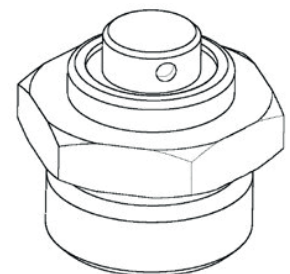

Fig. 3 - 3 bar valve
- The 3 bar valve (Fig. 3) must be installed on the top part of the towel rail. In case of 'Dual fuel' installation, a T-piece of 40mm maximum length (male thread excluded) is required.
- The Spacer (B) must not be hit, moved or removed during the installation of the towel heater (electric only ATLANTIS installation).